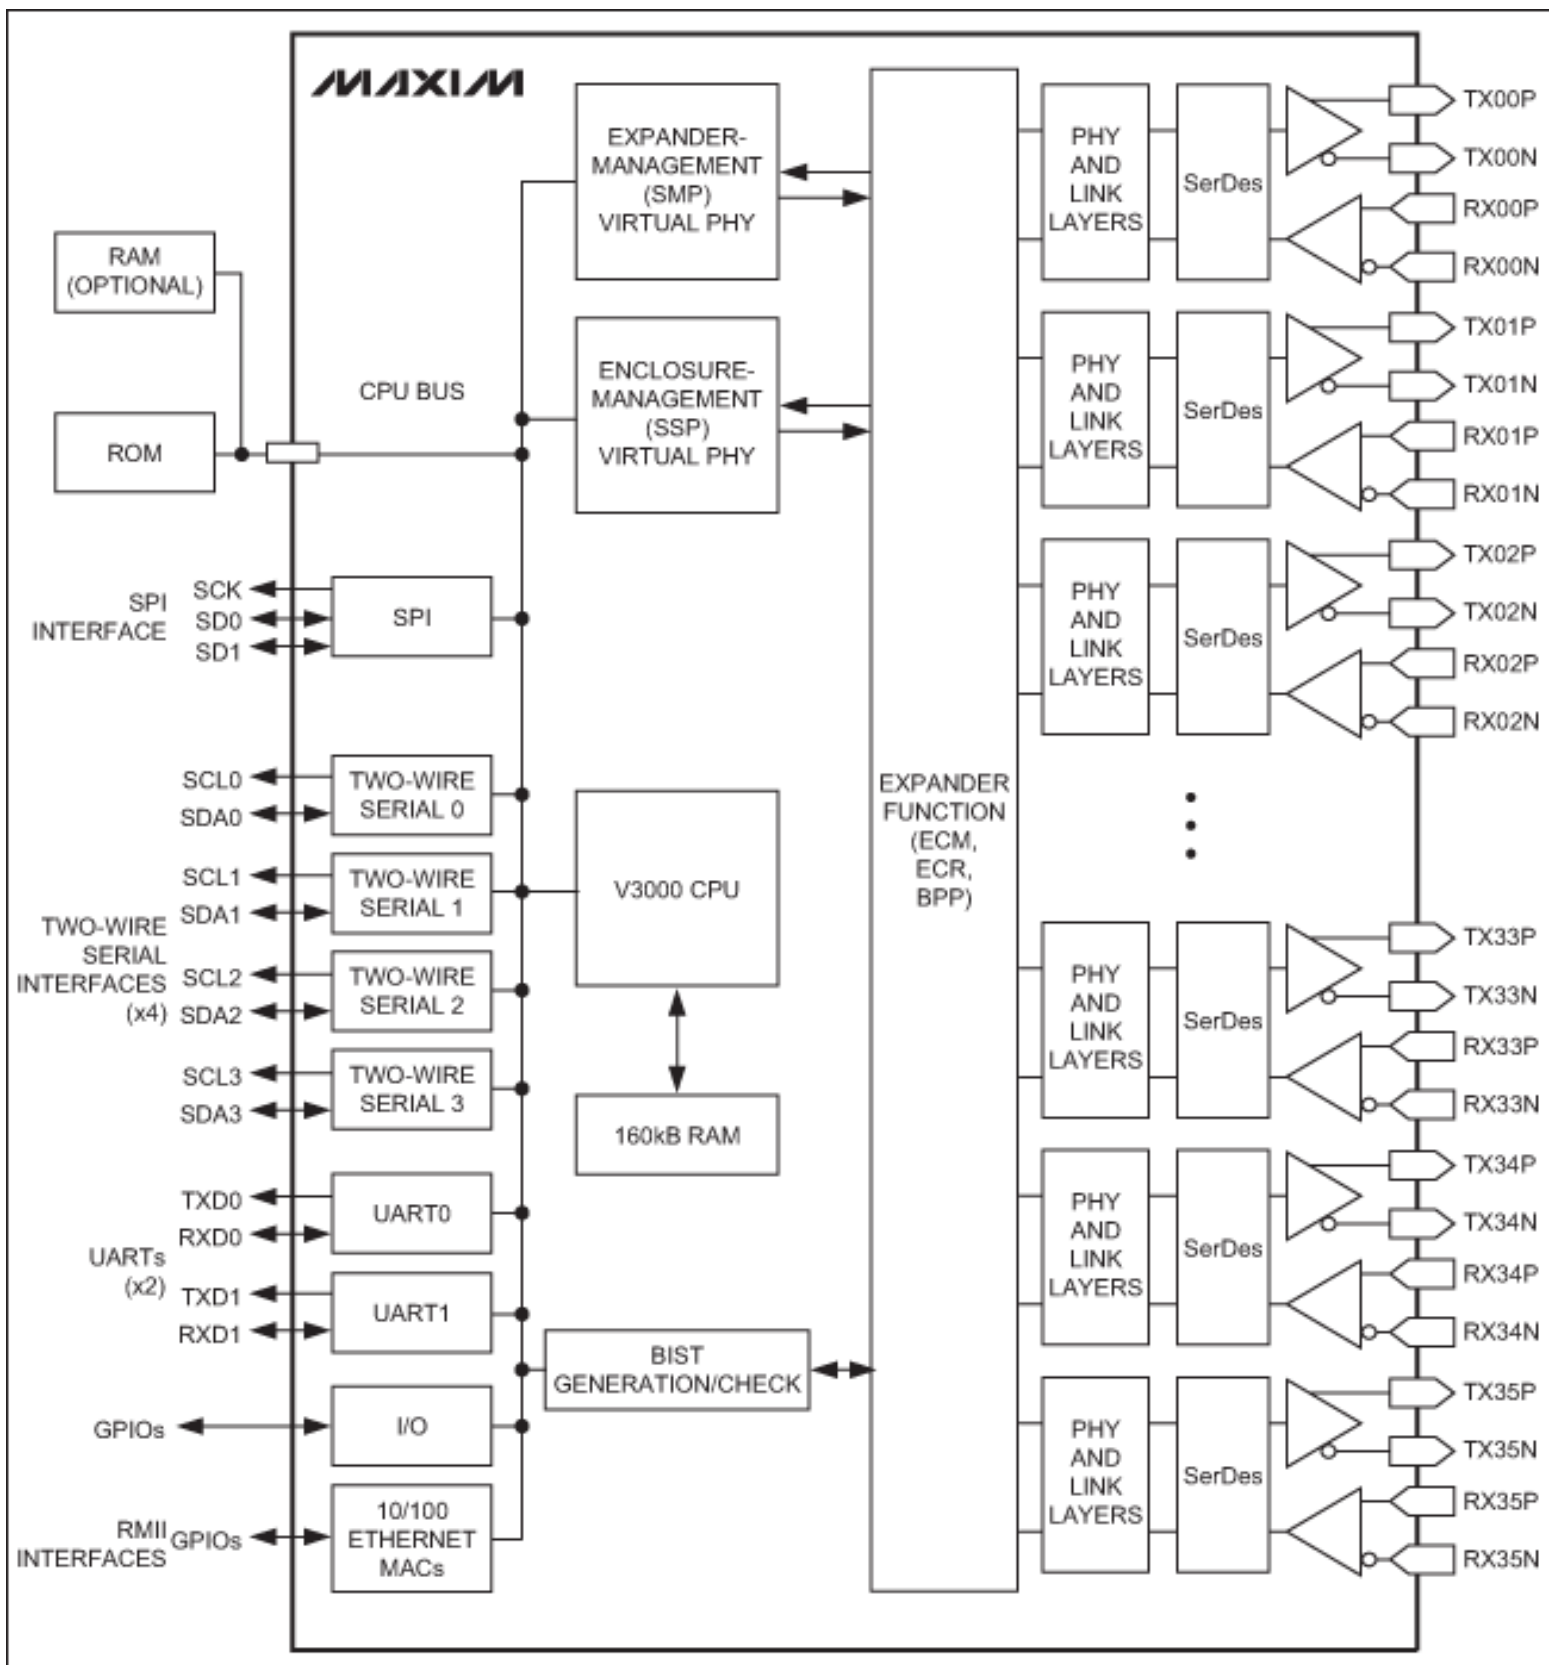

Figure 1. Functional diagram of Maxim's generation 1.5 NexSAS expander family.
**Figure 1** outlines the basic functional block diagram of all expanders in the NexSAS family. Generation 1.5 expanders offer a range of features to meet different system requirements. They also share a common set of features, including:
- **Integrated Enclosure-Management (EM) Subsystem.** Robust enclosure-management capabilities maximize OEM investment in legacy firmware/software/custom features, and allow flexibility in system designs.